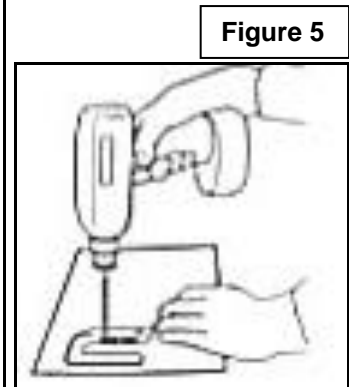

Figure 5
7. To mount anti-tip bracket to wood floor, drill two 1/8" (3.2 mm) holes at the positions marked on the bracket template. (See Figure 5)